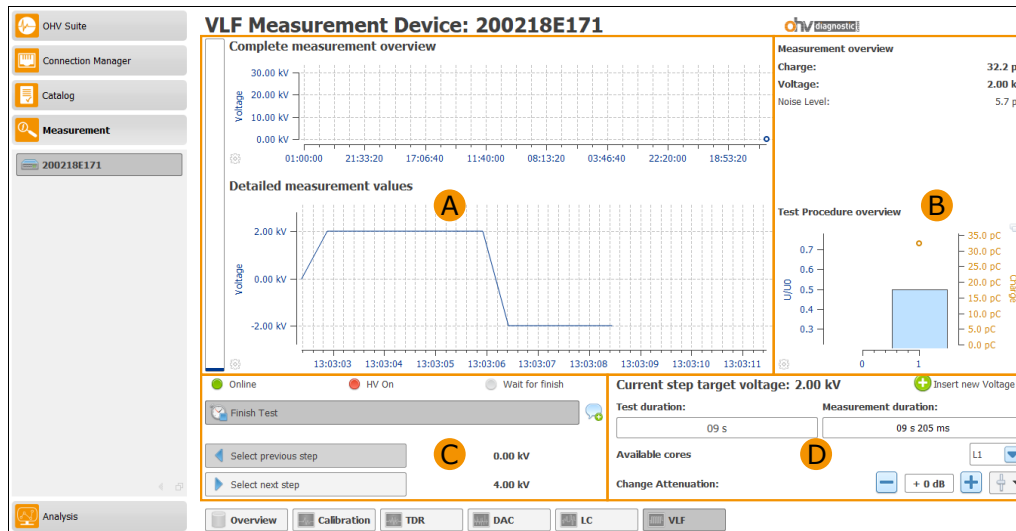

Figure 7.38: VLF measurement overview
This chapter describes the UI elements that are available for a VLF measurement. Figure 7.38 shows the general structure of the measurement surface. **A** represents the time course of the measurement. The **B** area is used to display the current measurement results for the last measurement and the complete test procedure during the test. The **C** area contains buttons that can be used to navigate within a procedure and the button to start the test. The currently selected settings are displayed in the **D** area.
For the display of the VLF measurement, in the area **A** in Figure 7.38 the time course of the VLF measurement is displayed. The upper diagram shows the complete process and the lower diagram shows the more detailed process. The data for the complete process are updated all 30 s with a new voltage value. The added voltage value is the maximum of the test since the last addition to the diagram. The detailed process diagram contains a new voltage value for all 500 ms, which corresponds to the current voltage value of the measurement. The maximum display time for this diagram is 1 min. The saturation of the last VLF shot is displayed to the left of the diagrams. The attenuation level can be adjusted with the aid of this saturation level.
**B** in Figure 7.38 displays the current measurement results of the last shot, as well as the test procedure for the VLF measurement. The current results are displayed in the upper area. The lower area contains an overview of the VLF measurements performed. For each measurement, the used voltage value and the maximum charge are displayed in a diagram.
**C** in Figure 7.38 shows elements (cf. Table 7.19) that are needed to perform a VLF measurement.
in Figure 7.38 displays the current values of the VLF measurement. In Table 7.20 the different elements will be described.